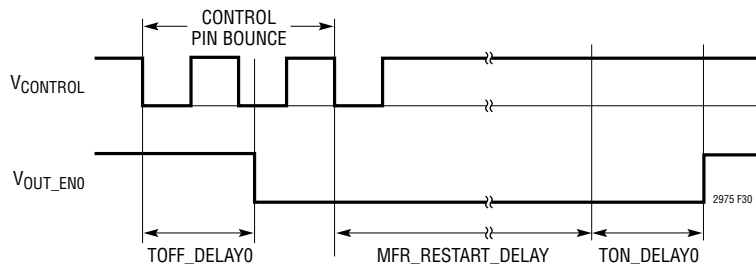
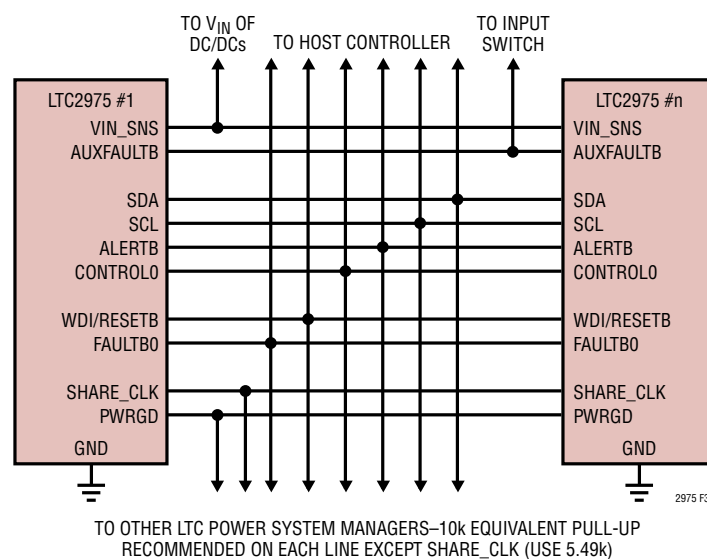

Figure 30. Off Sequence with Automatic Restart
Figure 33. Typical Connections Between Multiple LTC Power System Managers
An automatic restart sequence can be initiated by driving the CONTROL pin to the off state for >10 $\mu$ s and then releasing it. The automatic restart disables all VOUT\_EN pins that are mapped to a particular CONTROL pin for a time period = MFR\_RESTART\_DELAY and then starts all DC/DC Converters according to their respective TON\_DELAYS. (see Figure 30). VOUT\_EN pins are mapped to one of the CONTROL pins by the MFR\_CONFIG\_LTC2975 command. This feature allows a host that is about to reset to restart the power in a controlled manner after it has recovered.
Figure 33 shows how to interconnect the pins in a typical multi-LTC2975 array.
- The `FAULTB` lines can be connected together to create fault dependencies. Figure 33 shows a configuration where a fault on any `FAULTB` will pull all others low. This is useful for arrays where it is desired to abort a startup sequence in the event any channel does not come up (see Figure 30).
- `PWRGD` reflects the status of the outputs that are mapped to it by the `MFR_PWRGD_EN` command. Figure 33 shows all the `PWRGD` pins connected together, but any combination may be used.